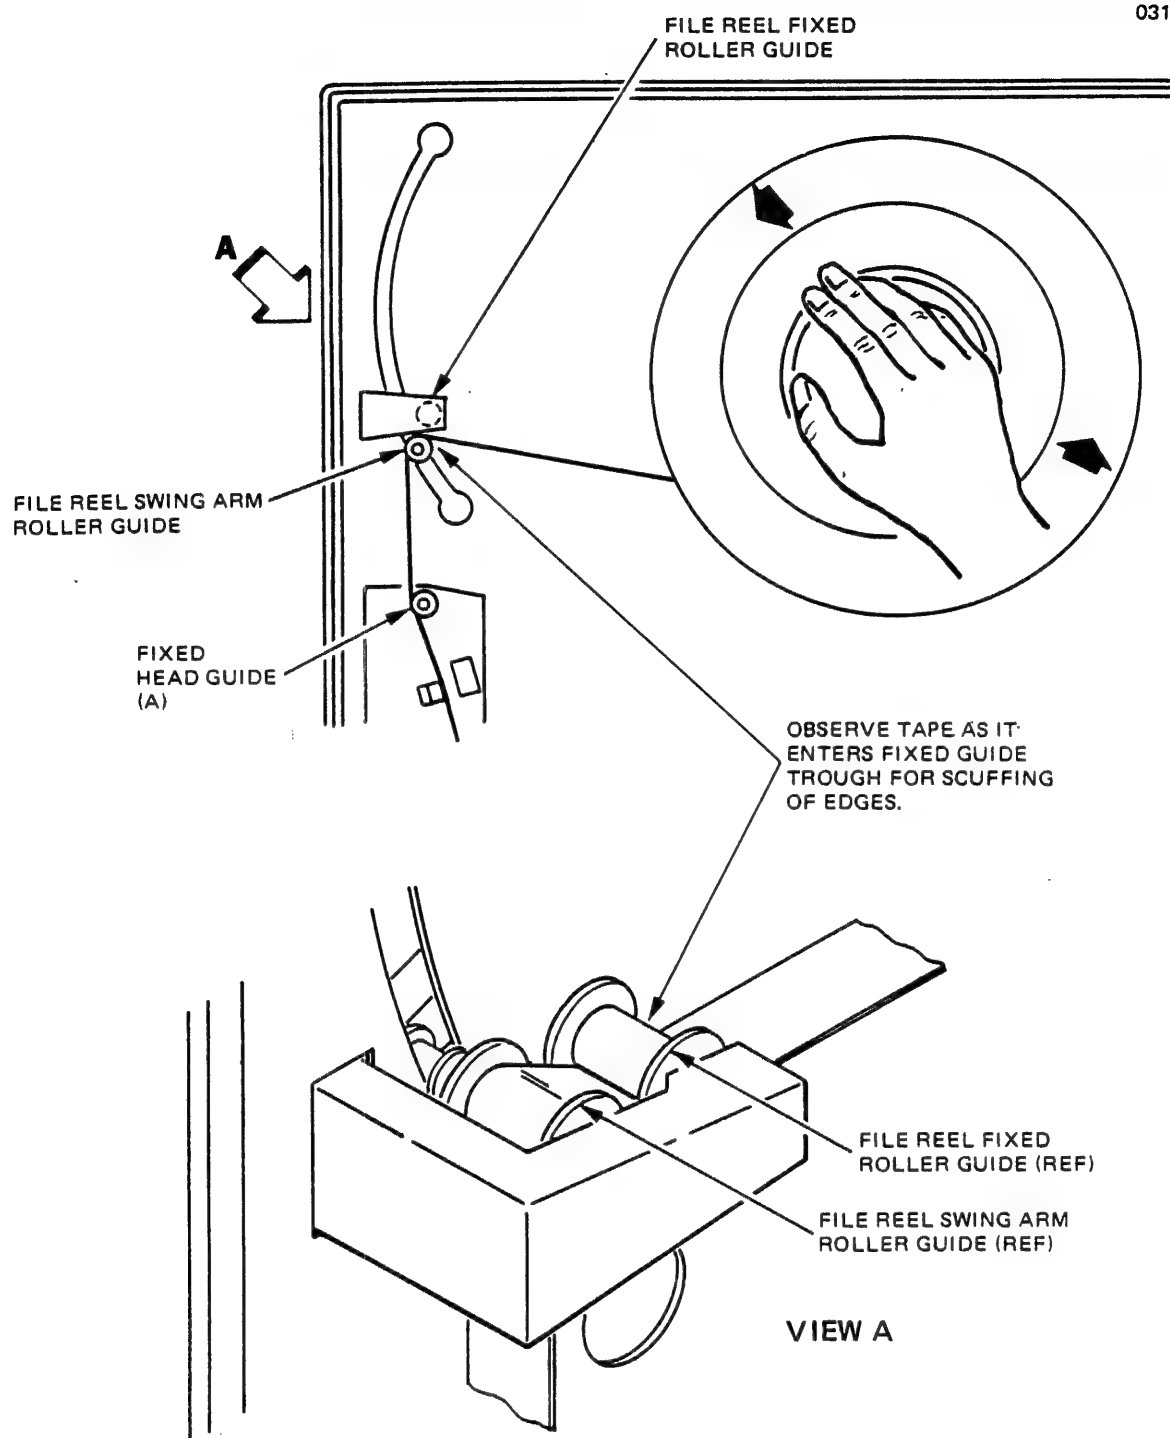

Figure 4-20. File Reel Fixed Guide Adjustment
4.4.2.1.2 File Reel Fixed Roller Guide. This guide must be visually aligned to the buffer arm roller guide by rotating the file reel counterclockwise (ccw) against the servo. Use old tape tension until the file reel buffer arm reaches a point where the tape disengages the file reel fixed roller guide as shown in Figure 4-20. At this point, any misalignment between the rollers is seen as a curling or scuffing of the tape edge against one of the flanges on the file reel fixed roller guide. This condition may be corrected by adjusting the screw at the side of the support for the file reel fixed roller guide.
2. Each time file or fixed reel buffer arm is adjusted, its respective fixed roller guide requires an adjustment for parallelism of guide flanges (see Figure 4-20).